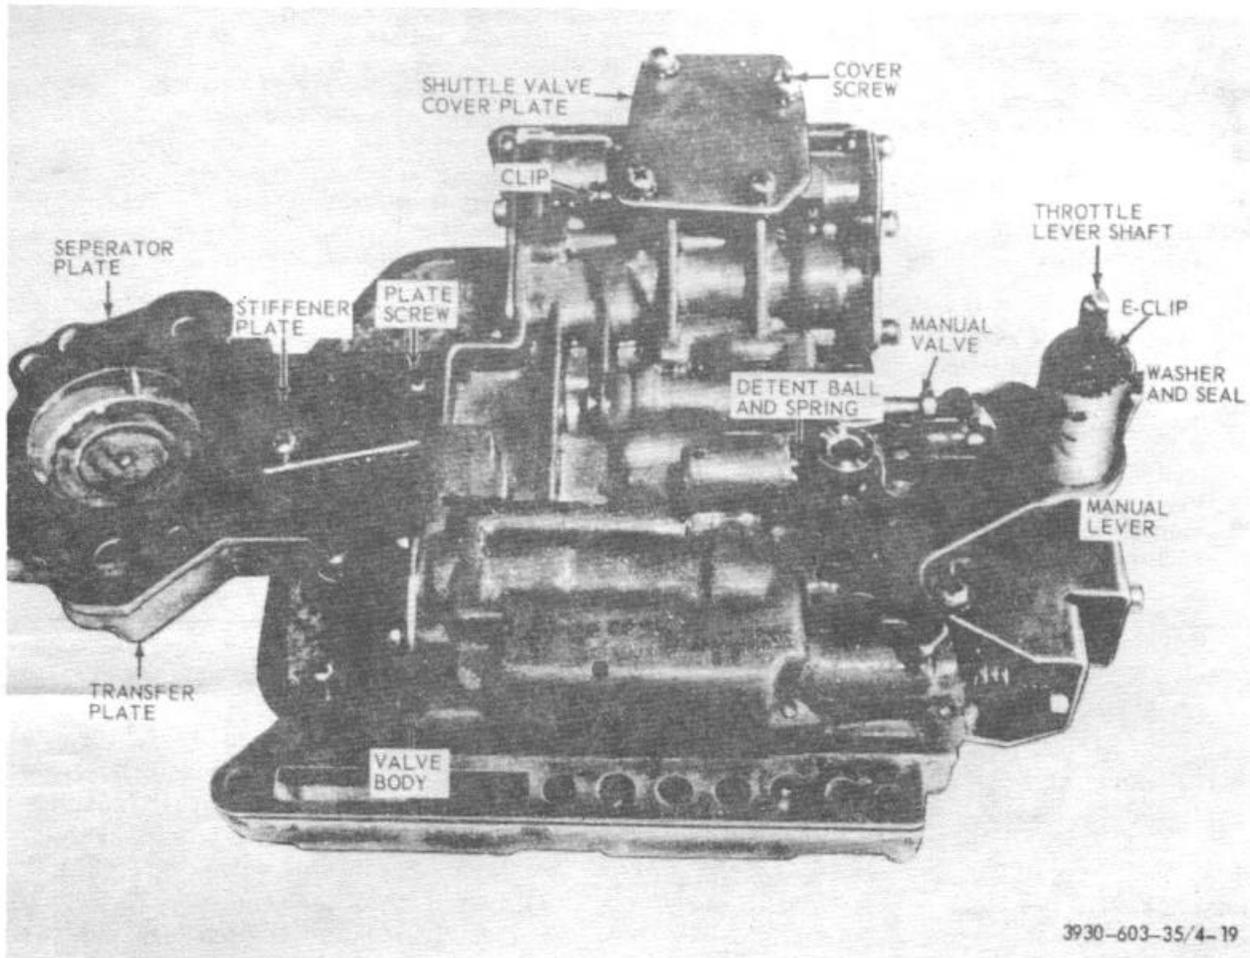

Figure 4-19. Valve body assembly, top view.
- (8) Invert valve body and lay it on clean cloth or paper. Remove E-lip and washer from throttle lever shaft (Fig 4-19). Remove any burrs from shaft, then while holding manual lever detent ball and spring in their bore, slide manual lever off throttle shaft. Remove detent ball and spring.
- (1) Position valve body separator plate (fig. 4-19) on transfer plate. Install stiffener plate and secure with two stiffener plate screws. Make sure all bolt holes are aligned and torque stiffener plate screws to 28 inch-pounds.
- (3) Install E-clip (fig. 4-19), on end of shuttle valve. Install shuttle valve cover plate and four cover screws, and tighten screws to 28 inch-pounds torque.
- (6) Install throttle valve (10), throttle valve spring (9), kickdown valve (8), kickdown detent (7) (counterbore side of detent toward - valve), then assemble in valve body (20).
- (7) Install throttle lever stop screw assembly (5) and tighten lock nut (6) finger tight.
- (8) Install manual valve (11) in valve body (20).
- (9) Install throttle lever shaft (fig. 4-19) on valve body. Insert detent spring and ball in its bore in valve body. Depress ball and spring and slide manual lever over throttle shaft so it engages manual valve and detent ball. Install retaining ring washer and E-clip on throttle shaft.